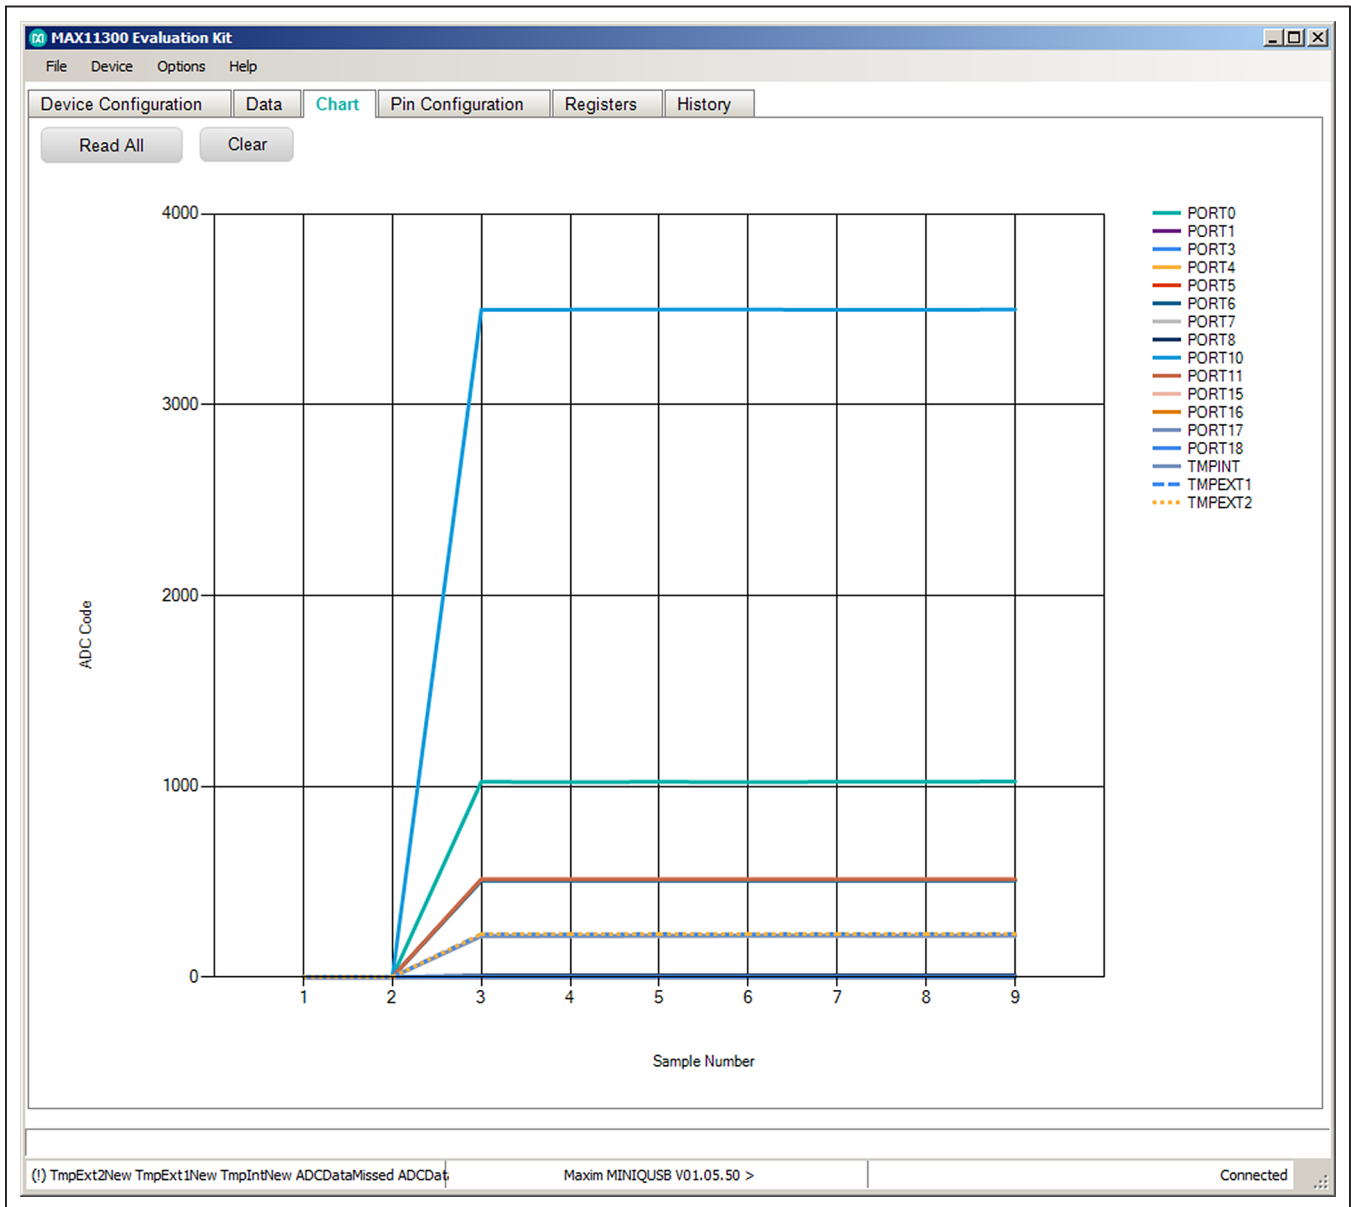

Figure 4 Chart Tab
**Out** or **GPO Out** controls, or provide ADC or GPI input values. Pins configured for GPI input can be used as interrupt sources by double-clicking in the Interrupt cell. Select the **Chart** tab (Figure 4), then check **Options** menu | **Polling** to show the analog inputs on a graph.